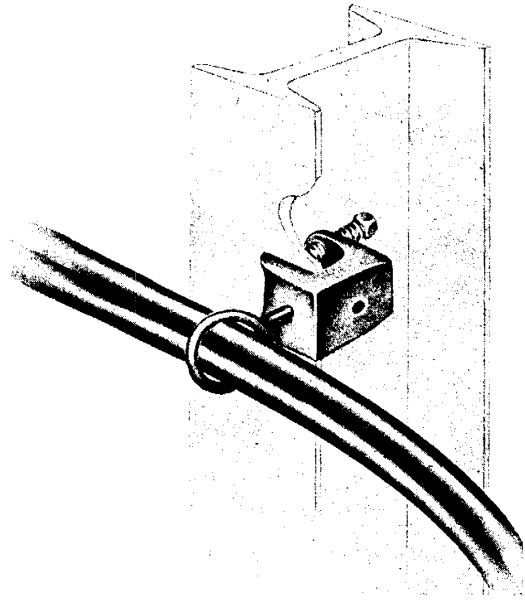

Fig. 9 - B Insulator Support and Bridle Ring
- B insulator support (Fig. 9) will accommodate B or M bridle rings only. It can be attached to steel structures up to $\frac{3}{4}$ inch in thickness.